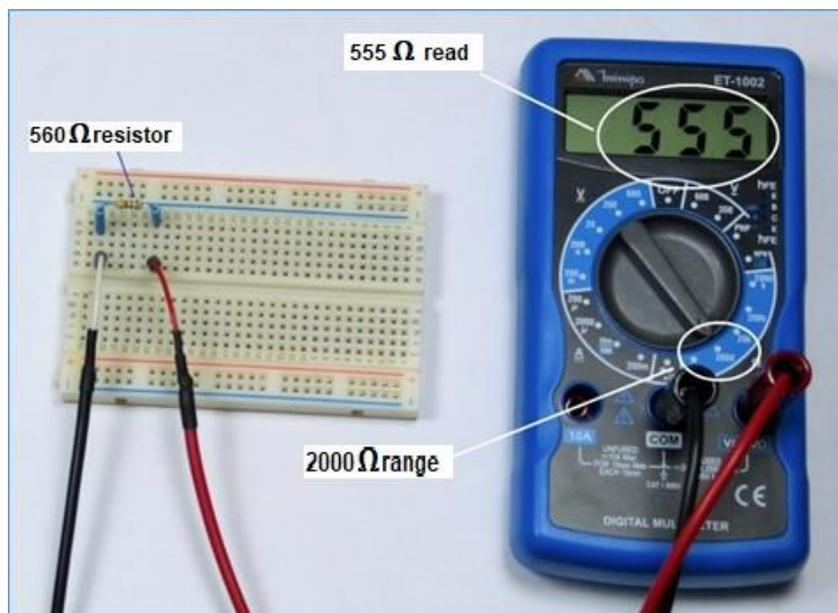

Figure 73 - Measuring of the 560 ohms resistor.
3. In **figure 73** you can see the multimeter's function selector switch in the 2000 Ω position, i.e. 2 k Ω . It measures resistance from 0 Ω to 1999 Ω (0 to 1.999 k Ω).